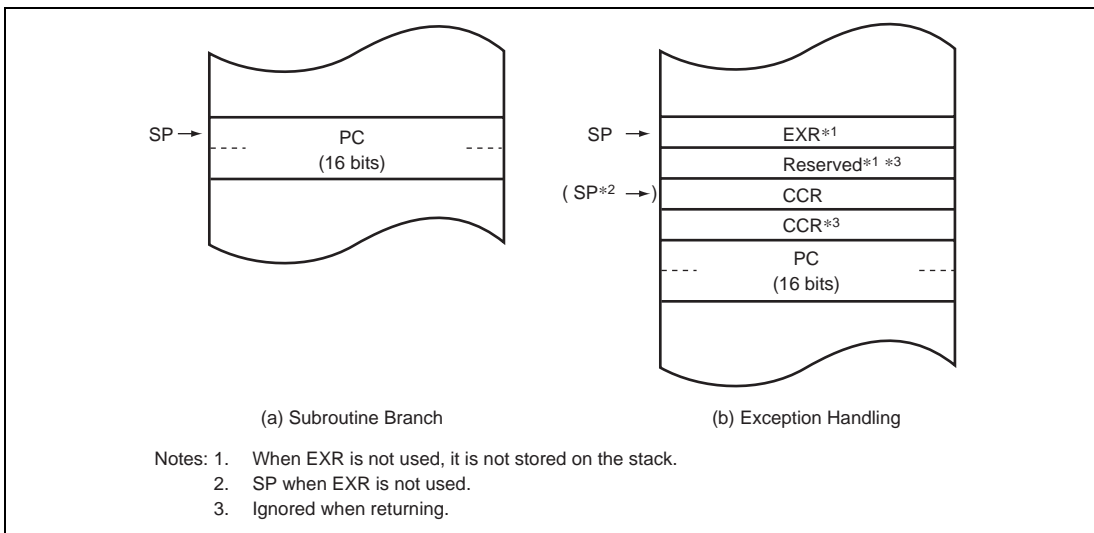

Figure 2.2 Stack Structure in Normal Mode
When the program counter (PC) is pushed onto the stack in a subroutine call, and the PC, condition-code register (CCR), and extended control register (EXR) are pushed onto the stack in exception handling, they are stored as shown in figure 2.2. EXR is not pushed onto the stack in interrupt control mode 0. For details, see section 4, Exception Handling.